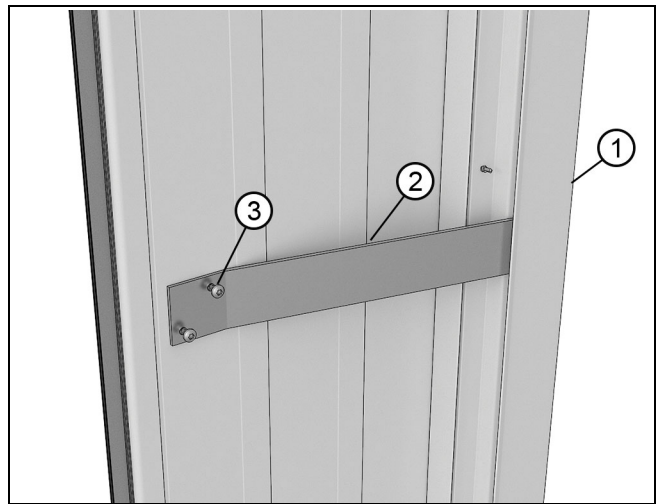

Figure 104
7. On pocket doors with **4 or more tracks**, attach the pocket cover support bracket to the pocket cover. Slide the flat end into the recess on the pocket support block and then fasten to the pocket cover with two #8x 5/16" (11) self drilling screws provided. See Figure 104.